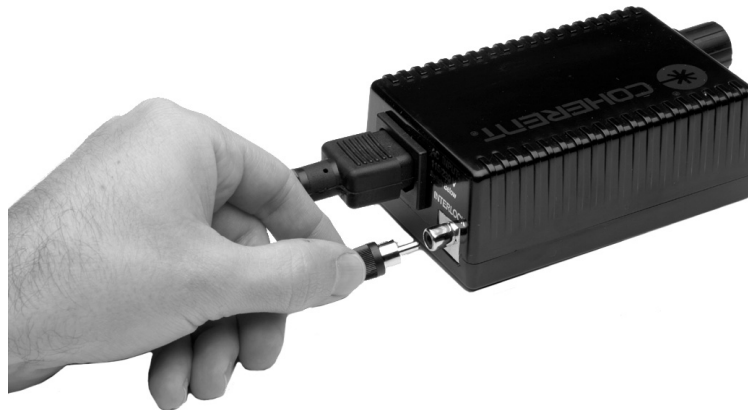
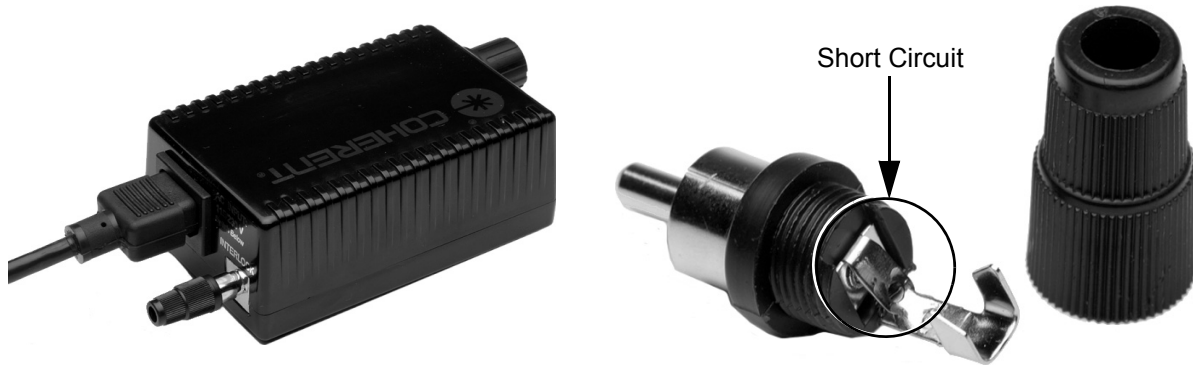

Figure 11. Defeated Safety Interlock with Shorting Plug
Figure 12. Defeated Interlock Connector with Short Circuit
- b. To defeat the remote interlock feature, connect the factory-supplied interlock connector (a shorted RCA jack) (Figure 11 and Figure 12).